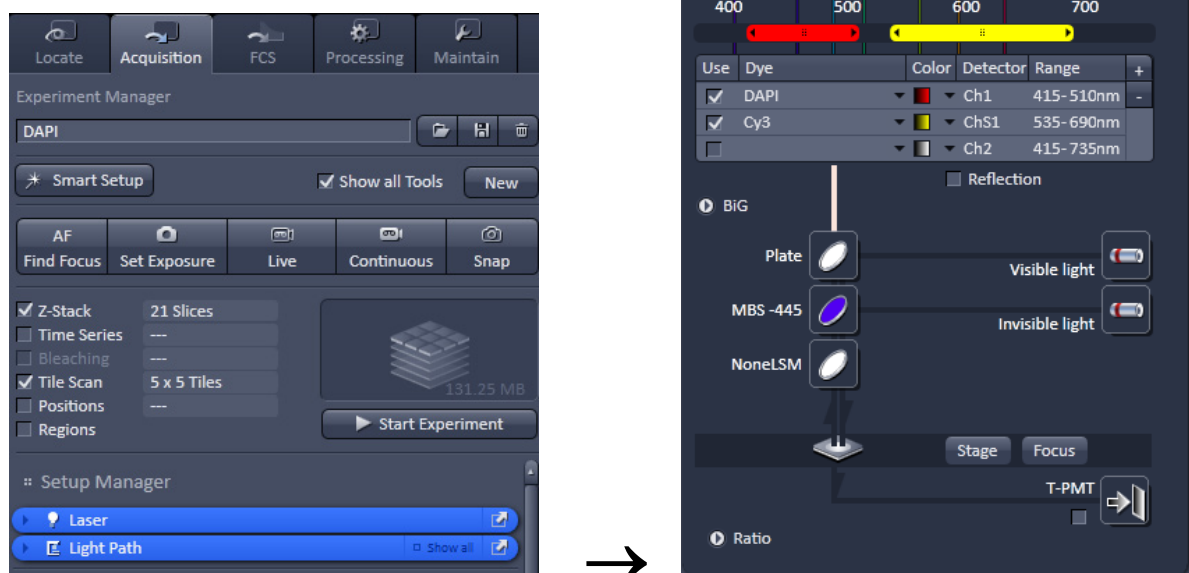

Fig. 16 Light Path tool for a single track (LSM)
The open **Light Path** is shown in Fig. 16.
- Select **Channel** mode if necessary (Fig. 16).
- Select the appropriate filters and activate the channels (Fig. 16).
- Click the **Laser** icon to select the laser lines and set the attenuation values (transmission in %) in the displayed window (Fig. 16).
The following functions are available in the **Light Path** tool of the **Setup Manager** tool group (Fig. 16).